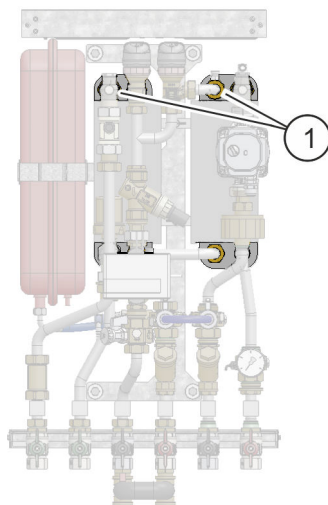

Fig. 40: Loosening the pipe fasteners
3. ➤ Loosen all the pipe fasteners (Fig. 40/1) of the pipes to the heat exchanger to be replaced.
6. ➤ To bolt the new heat exchanger in place, tighten the 4 bolted connections (Fig. 40/1).